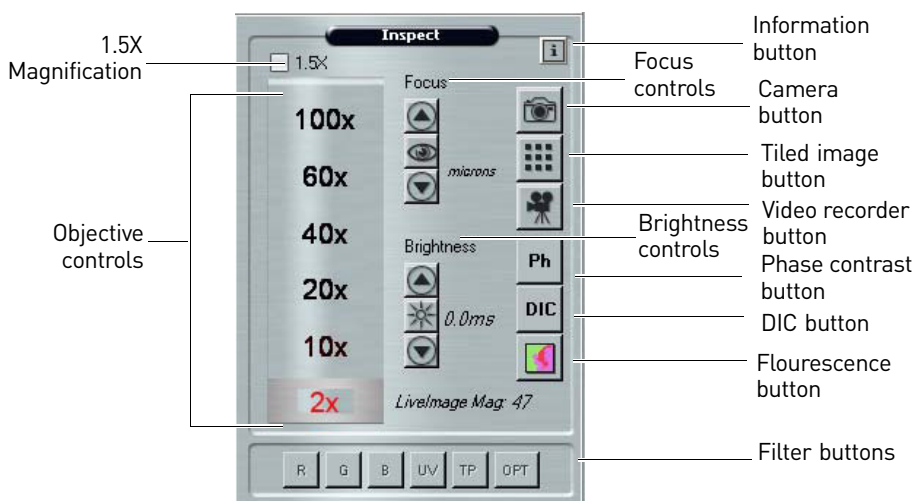

Figure 21 The Inspect tools pane
1. Click the Information (i) button in the upper-right corner of the Inspect tools pane (see Figure 21 on page 37) to open the Inspect Options dialog box.
2. Click on the 1.5X box in the Inspect tools pane (see Figure 21 on page 37) to indicate that this feature has been selected.
The Arcturus^{XT} software automatically sets the brightness when you tap or click the Autobrightness button on the Inspect tools pane (see Figure 21 on page 37). If the default autobrightness is not appropriate for your sample, you can adjust the value manually and save it as the default.